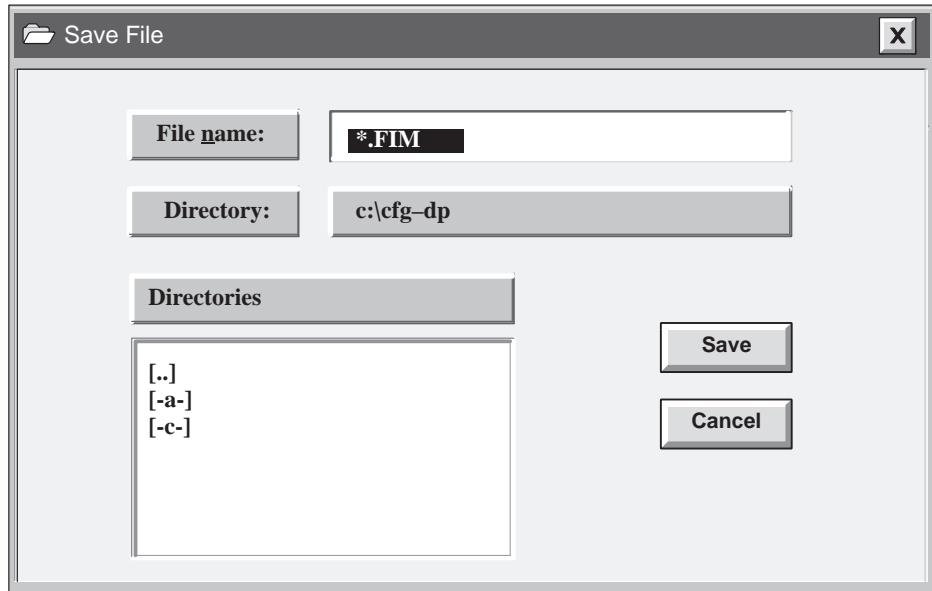

Figure 4-15 Save File Dialog Box
**Save** Use this command to save the configuration file with its current name and directory. When you save a document for the first time, the Configurator displays the Save File dialog box so you can name your configuration file. (See Figure 4-15.) If you want to change the name and directory of an existing configuration file before you save it, choose the Save As command.
**Save As** Use this command to save and name the current configuration. The Configurator displays the Save File dialog box so you can name your configuration. (See Figure 4-15.)
The Save File dialog box shown in Figure 4-15 contains the following fields, which enable you to specify the name and location of the file that you are about to save: